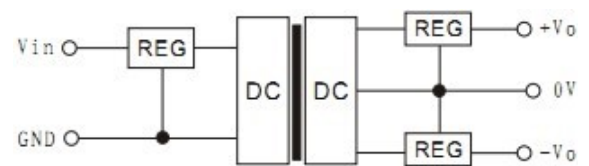

Figure 2
5. The simplest method for output voltage regulation, overvoltage protection, and overcurrent protection is to connect a linear regulator with over temperature protection in series at the input or output end (as shown in Figure 2).